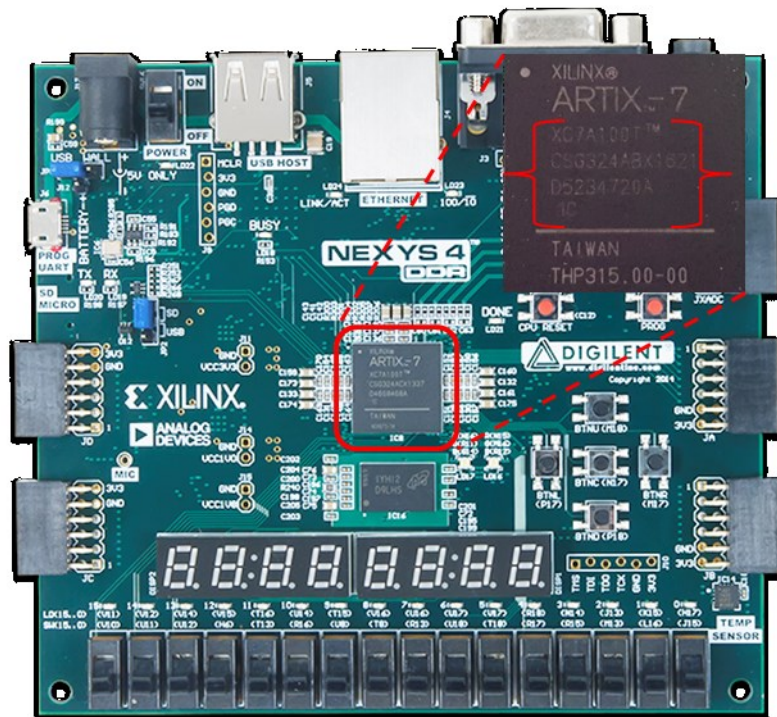

Figure 5-1
Figure 5-1 shows the Nexys 4 DDR programming kit and focuses on the FPGA chip. This IC belongs to the Xilinx's Artix 7 family with device code XC7A100T. This FPGA chip is going to be used during rest of the chapter.
**Solution:** Step-1) As the first step to achieve our task, we need to open a new project. After setting file our project file, ISE Design Suite asks for the FPGA chip family, device, package and speed properties of the chosen FPGA. These properties can be achieved simply by reading the top side of the FPGA chip. In our case, it can be read from the Figure 5-1. Figure 5-2 shows the overall assignment.